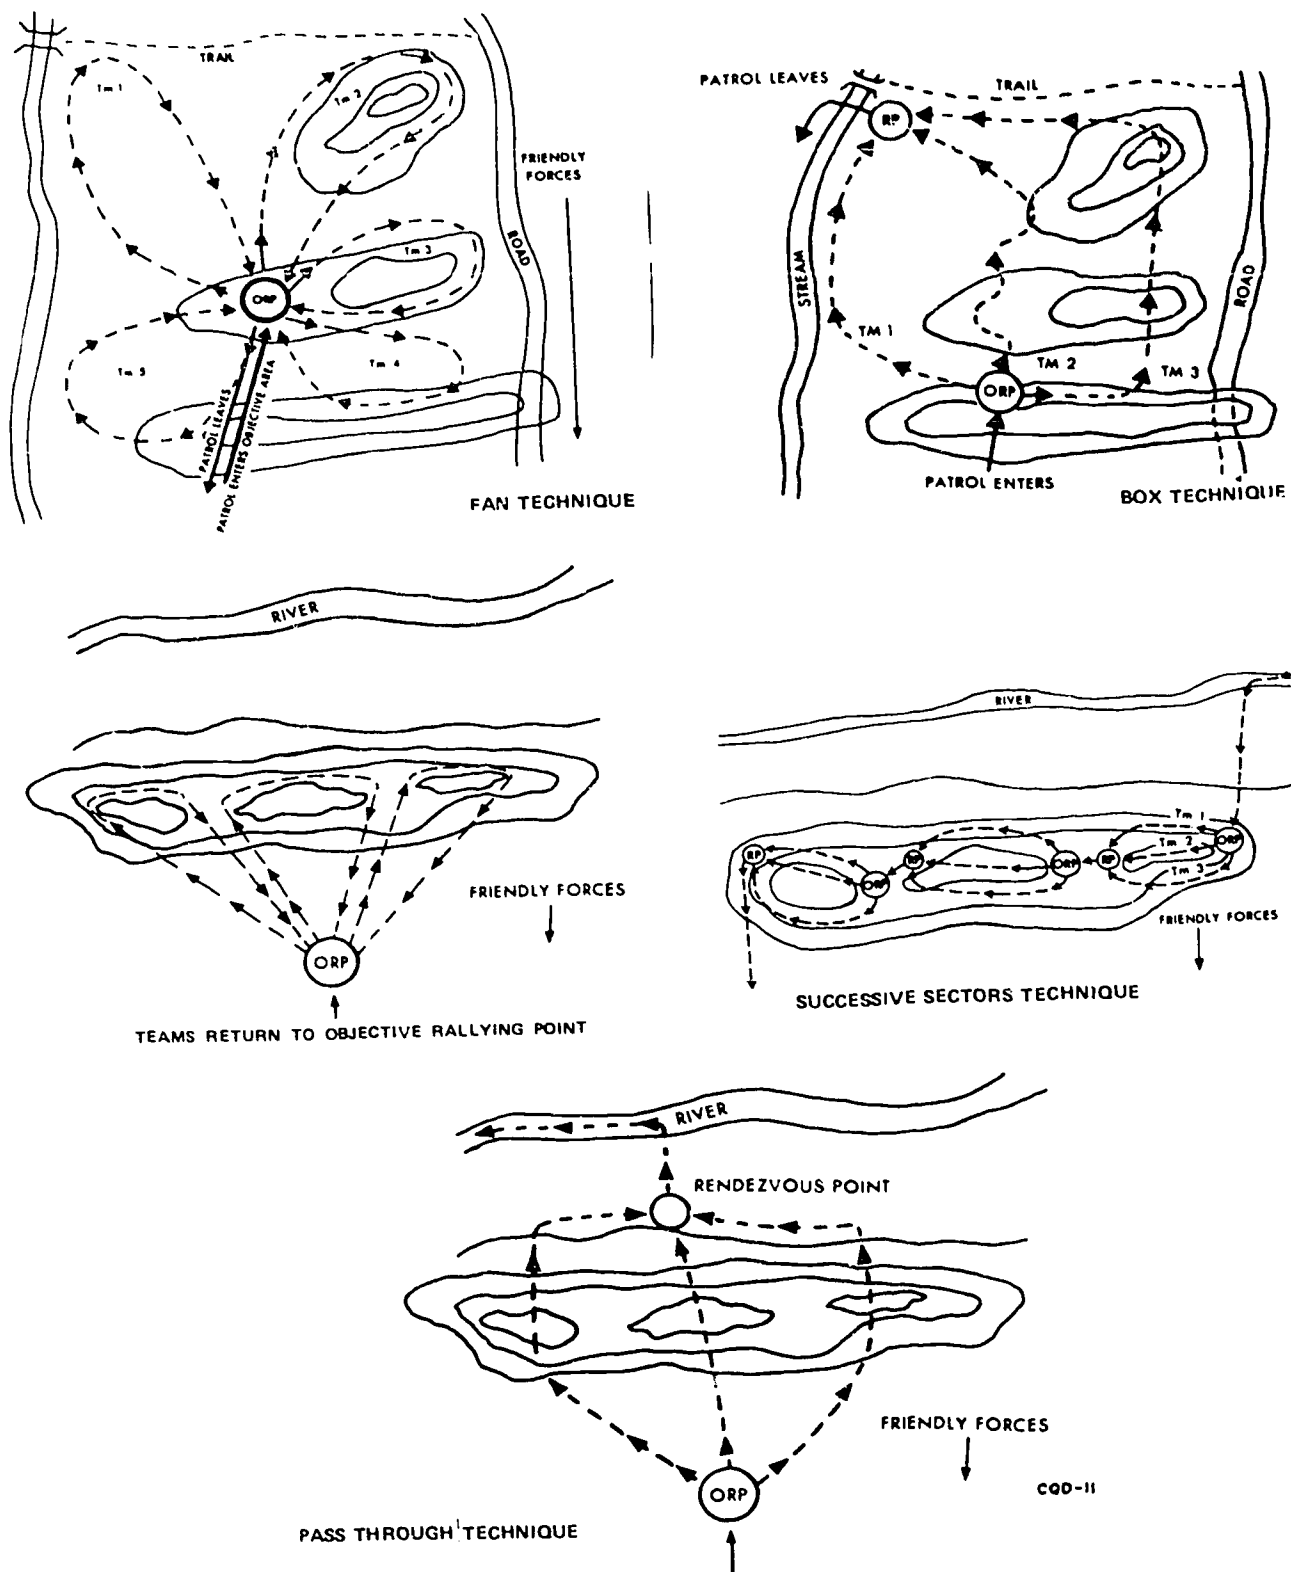

Figure 3-13. Area reconnaissance.
**Area Reconnaissance.** Your mission on an area recon patrol is to move through an assigned area and locate specific enemy positions. You also confirm data reported by area surveillance patrols. There are many methods of conducting area recon patrols. Figure 3-13 illustrates these methods. Your imagination can produce other methods to use.